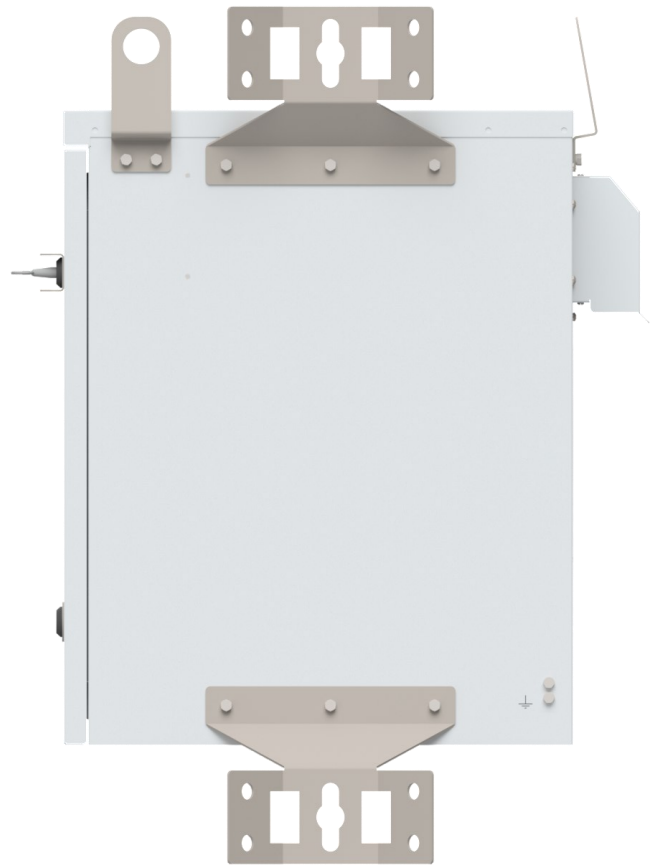

Figure 5 Cabinet with attached pole mount bracket
- Install the pole mounting brackets using 3 bolts (1/4"– 20 , 0.5" long hex head) on each side as shown in figure 5. Torque to 65.0 in-lbs (7.34 Nm) (6 places).